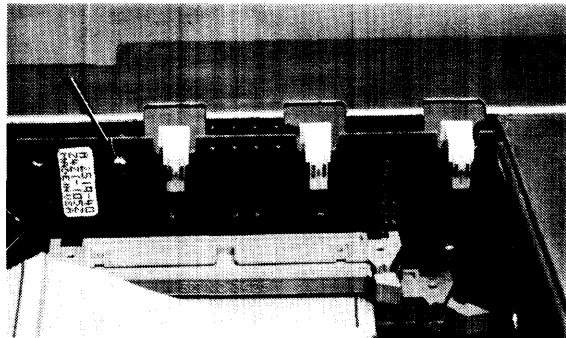

Figure 2-8. Motherboard Fasteners
2. Using a #1 Pozidriv[®] screwdriver, remove the four screws holding the motherboard to the fan housing. Refer to Figure 2-8.